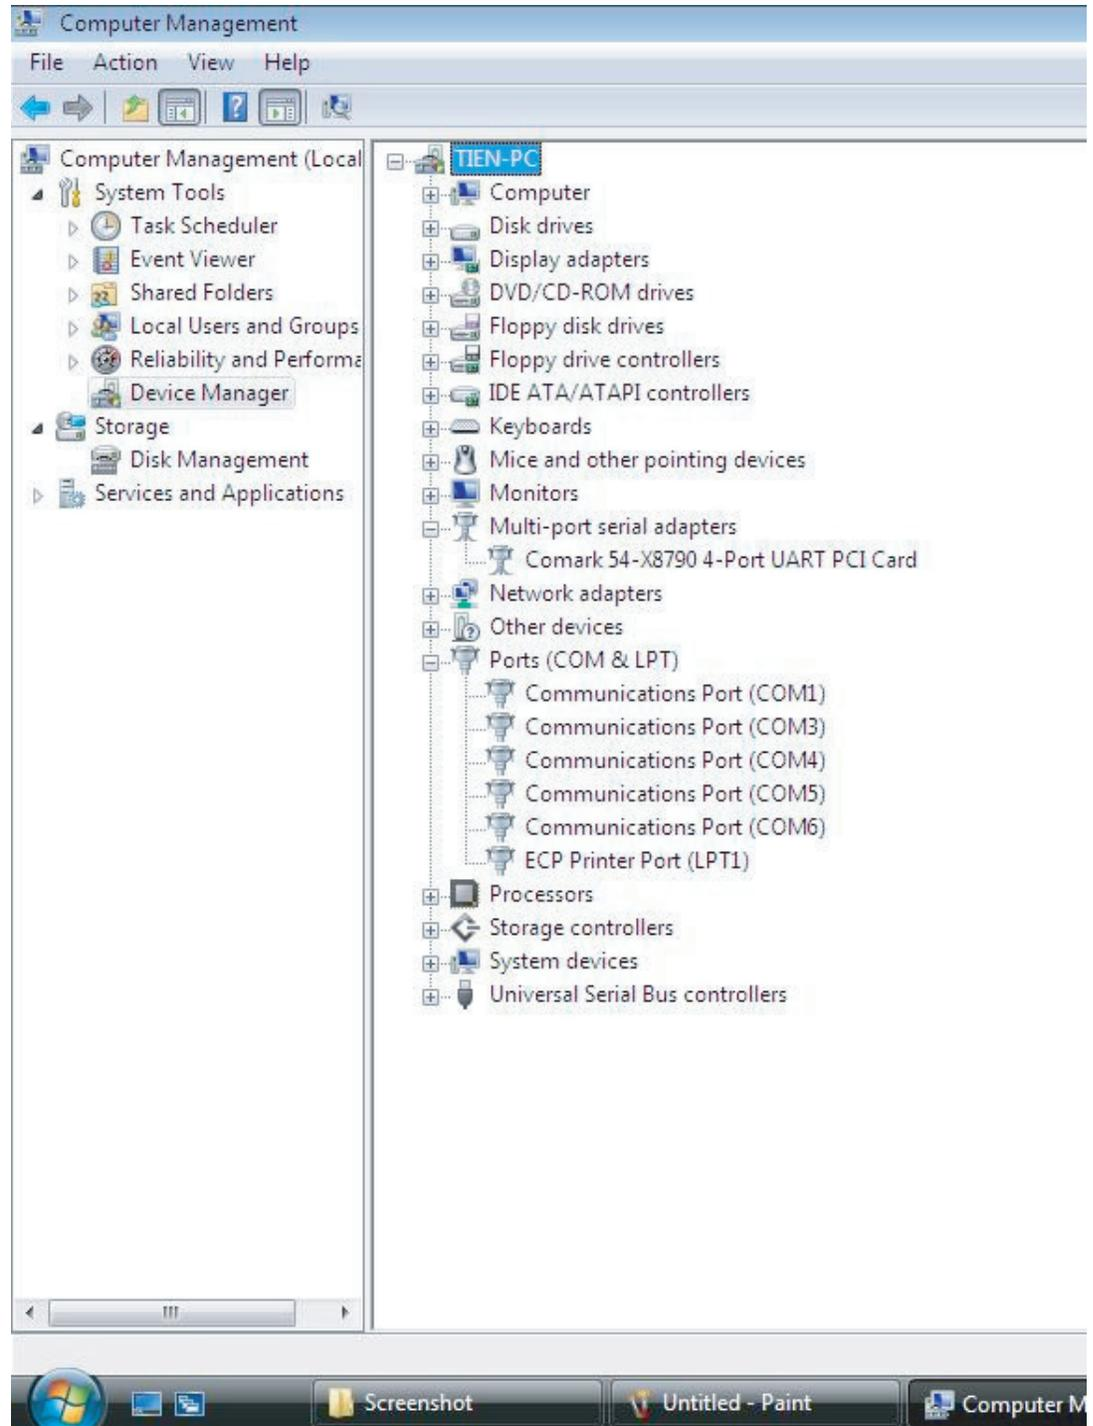

Figure 7-6 Device Manager After the Driver Installation
10. After the Comark 54-X8790 driver installation has been finalized, Windows will detect a new malfunction device and steps 1-8 will need to be repeated to install the Communication Port for this driver. Figure 7-6 shows the **Device Manager** screen after all installations are completed.